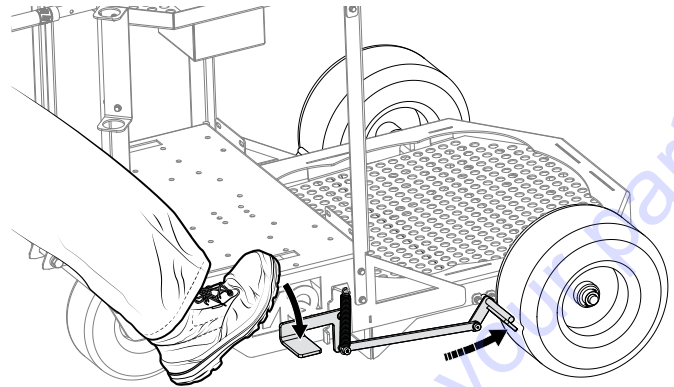

Figure 28. Engage Parking Brake
2. Park the spray cart near the application area and engage the parking brake (Figure 28) to prevent the unit from rolling during use.